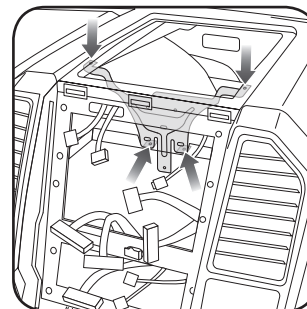

Fig. 5.1
5. **If using a shallow depth radio skip this step.** If a camera module is present remove the (3) 10mm nuts securing it. (Fig. 5.1) Relocate the camera module to the location where the factory radio body was, secure with tie wraps.
Work the metal bracket free from the sub-dash and remove it. (Fig. 5.1)